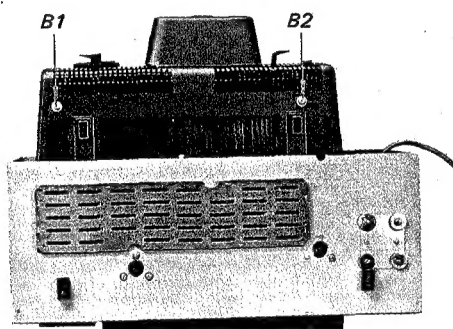

Fig. 2-2.
4. Remove the two screws labeled B1 ~ B2 in Fig. 2-2.